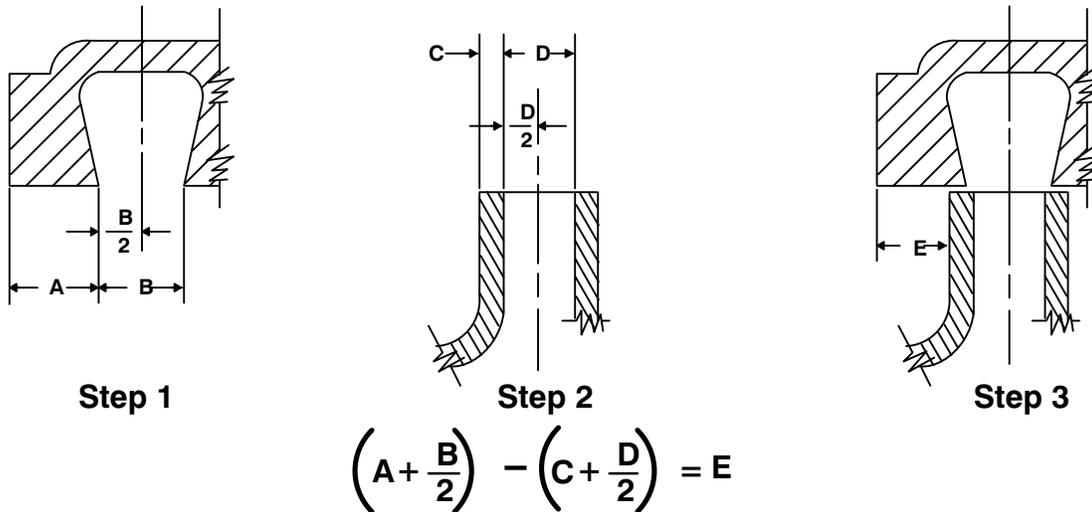

Figure 4. Centering Impeller Within Pump Casing
For maximum pump efficiency, the impeller must be centered within the volute scroll. To verify impeller positioning, measure the pump casing and impeller as shown in Figure 4. Use these measurements to calculate the required impeller location (dimension E). Add or remove impeller adjusting shims (53) to obtain dimension E.